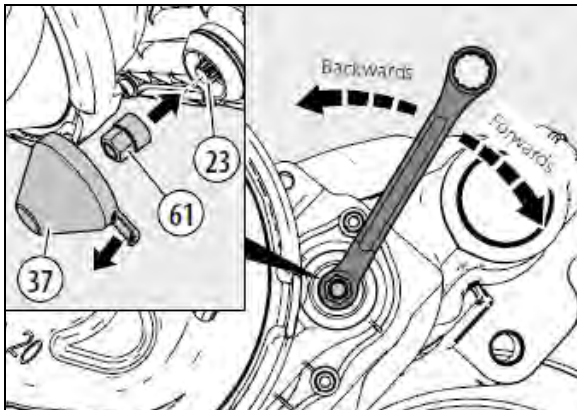

FIGURE 41: REMOVE CAP, INSERT NEW BRAKE PADS, SET THE STARTING GAP
7. Pull off the adjuster cap (37) using the tag, taking care not to lose the shear adapter (61) (see Figure 41).
*Removal of the adjuster cap (37) with a screwdriver, or similar, is not allowed since the seal may be damaged.*